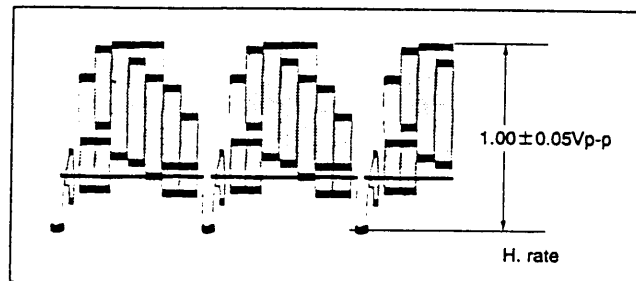

Fig.3-3-5 Deviation
- (1) Connect an oscilloscope to JA501- pin 19(VIDEO OUT).
- (2) Set EVR mode by pressing "K" button of the presetting unit more than 2 seconds.
- (3) Set "A : 13" pressing 1 and 3 numeric key of the remote controller.
- (4) Record and playback a colour bar signal.
- (5) Before recording, Adjust TV PROG "-" or "+" button so that Y level becomes 1.00  $\pm$  0.05Vp-p during playback as shown in Fig.3-3-5.
- (6) Set normal VCR mode by pressing "K" button of the pre-setting unit again so adjustment data is memorized.